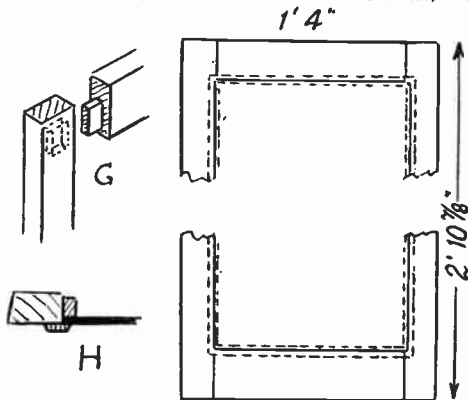

Fig. 3
The door, Fig. 3, is made up to the dimensions given, with 2 ins. wide side pieces and $2\frac{1}{2}$ in. wide rails. A simple mortise and tenon corner joint is recommended, as at (G), then no awkward cut edges are revealed when the door is opened. The opening is framed with $\frac{1}{2}$ in. wide strips of thin wood, mitred at the corners, and overlapping the opening by $\frac{1}{2}$ in. to form an interior rebate for the glass panel. This is shown at (H). The edges of this framing can well be slightly bevelled. At the same time, similar strips of wood can be glued to the angle pieces of the cabinet, if the cut edges of the plywood backs, which are visible at the front, are